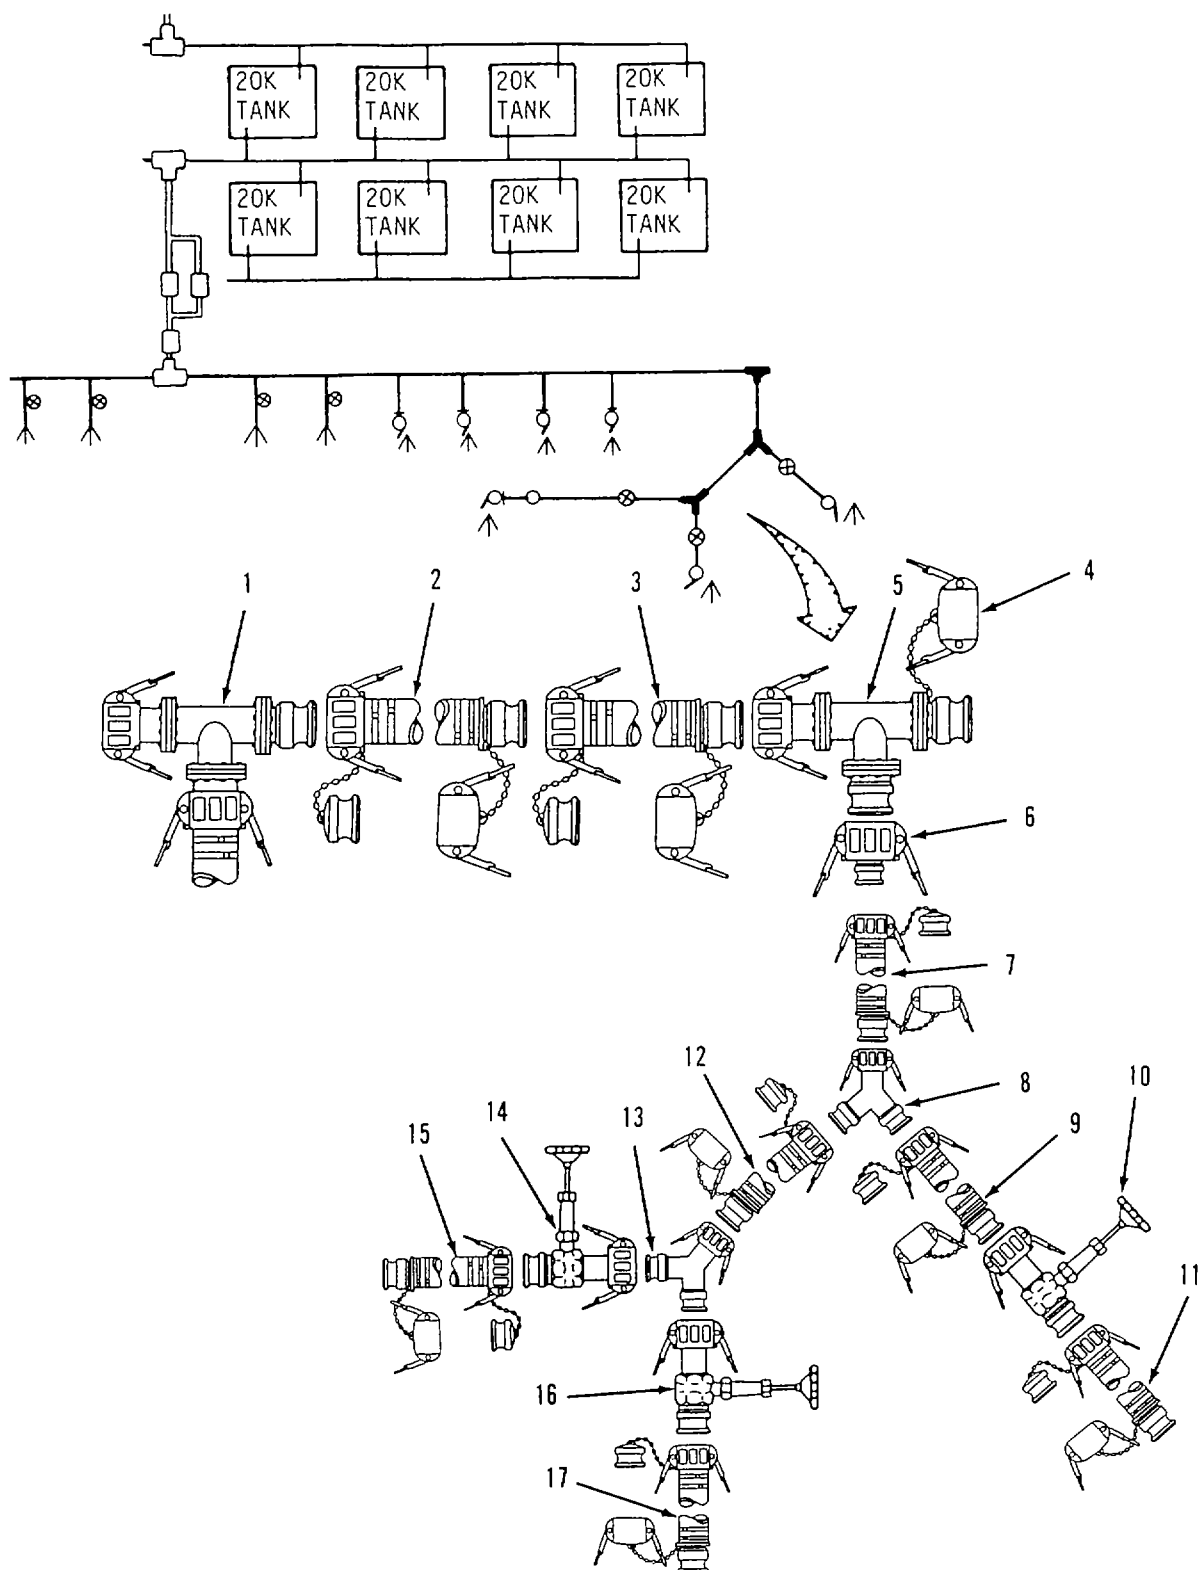

Figure 2-27. Bag Filler Connection Kit Disassembly.
- (4) Disconnect regulator (5) from 1 inch x 10 foot discharge hose (4).
- (5) Disconnect two 1 inch x 10 foot discharge hoses (3 and 4) from adapter (2).
- (6) Disconnect adapter (1-1/2 inch female x 1 inch male) (2) from 1-1/2 inch x 25 foot discharge hose (1) (from bag filler connection kit).
- (7) Repeat steps 1 through 6 for remaining hose and nozzle kits.
- (8) Drain and allow components to dry.
- (9) Install caps and plugs on couplings (para 2-10c).
c. Disassemble Bag Filler Connection Kits. Refer to figure 2-27.